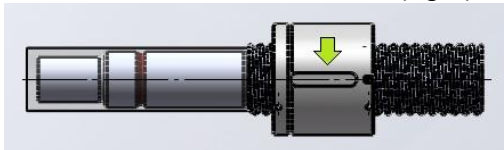

Fig. 3
- Screw the entire nut onto the screw (Fig. 3).